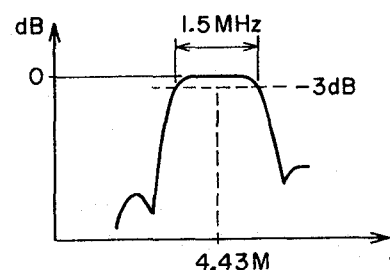

Fig. 83
REC BPF is to take out only 4.43MHz chroma signal from the video input signal. The characteristic is shown in Fig. 83, and the signal is received by EF (TR28) and put into AN6360 ①.